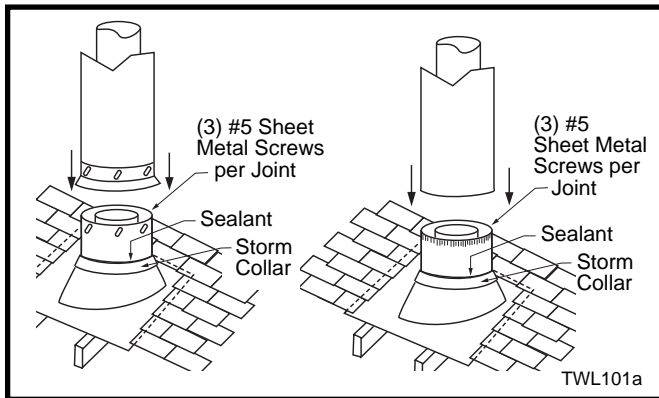

Fig. 38 Roof flashing.
8. Install appropriate pipe sections until the venting is above the flashing. (Fig. 38)